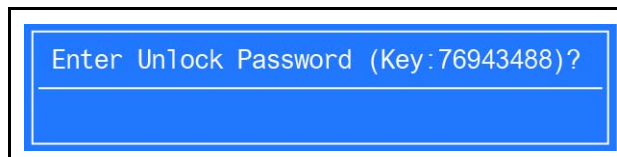
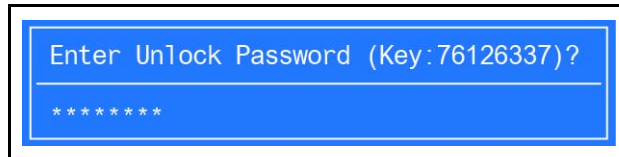

Figure 2-18. Unlock Password Key
Figure 2-19. Unlock Password
2. The Enter Unlock Password dialog (Figure 2-18) is shown.
4. Execute *UnlockHD.exe* (Figure 2-19) to create a password unlock code. Use the format `<UnlockHD [key code]>` with the code noted in the Figure 2-18.
5. On original device, enter password (Figure 2-19) in Enter Unlock Password dialog (Figure 2-18).